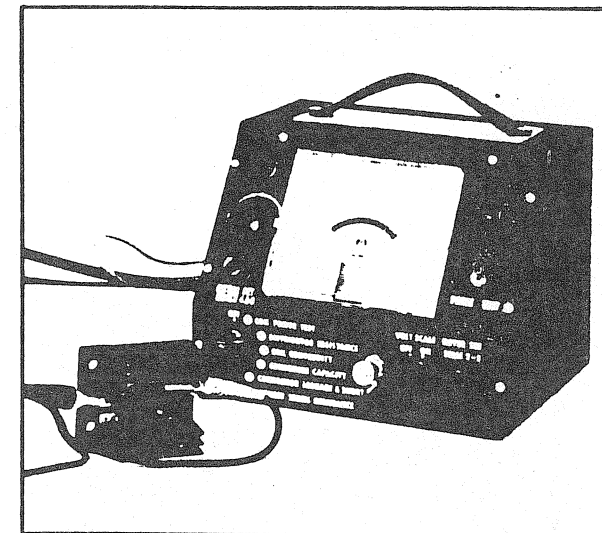

FIGURE 15
- Inverse the connection and the meter pointer should be at fully right on scale. (Fig. 15).